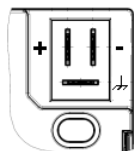

Fig. 5
- Respect the polarity of connections as shown in fig. 5 and fig. 6.